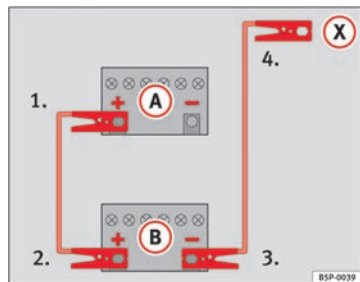
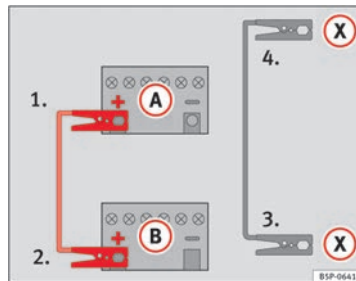

Fig. 245 Diagram of connections for vehicles without Start Stop system
Fig. 246 Diagram of connections for vehicles with Start Stop system
- Connect one end of the **red** jump lead to the positive (+) terminal of the vehicle with the flat battery (A) ⇒ Fig. 245.
- Connect the other end of the **red** jump lead to the positive terminal (+) in the vehicle providing assistance (B).
- Connect one end of the **black** jump lead to the negative terminal (-) of the vehicle providing assistance (B) ⇒ Fig. 245.
- Connect the other end of the **black** jump lead (X) to a solid metal component bolted to the engine block or to the engine block itself of the vehicle with the flat battery. However, connect it to a point as far as possible from the battery (A).
- Connect one end of the *red* jump lead to the positive (+) terminal of the vehicle with the flat battery (A) ⇒ Fig. 246.
- Connect the other end of the *red* jump lead to the positive terminal (+) in the vehicle providing assistance (B).
- Connect one end of the *black* jump lead (X) to a suitable ground terminal, a solid piece of metal in the engine block, or to the engine block ⇒ Fig. 246.
- Connect the other end of the *black* jump lead (X) to a solid metal component bolted to the engine block or to the engine block itself of the vehicle with the flat battery. However, connect it to a point as far as possible from the battery (A).